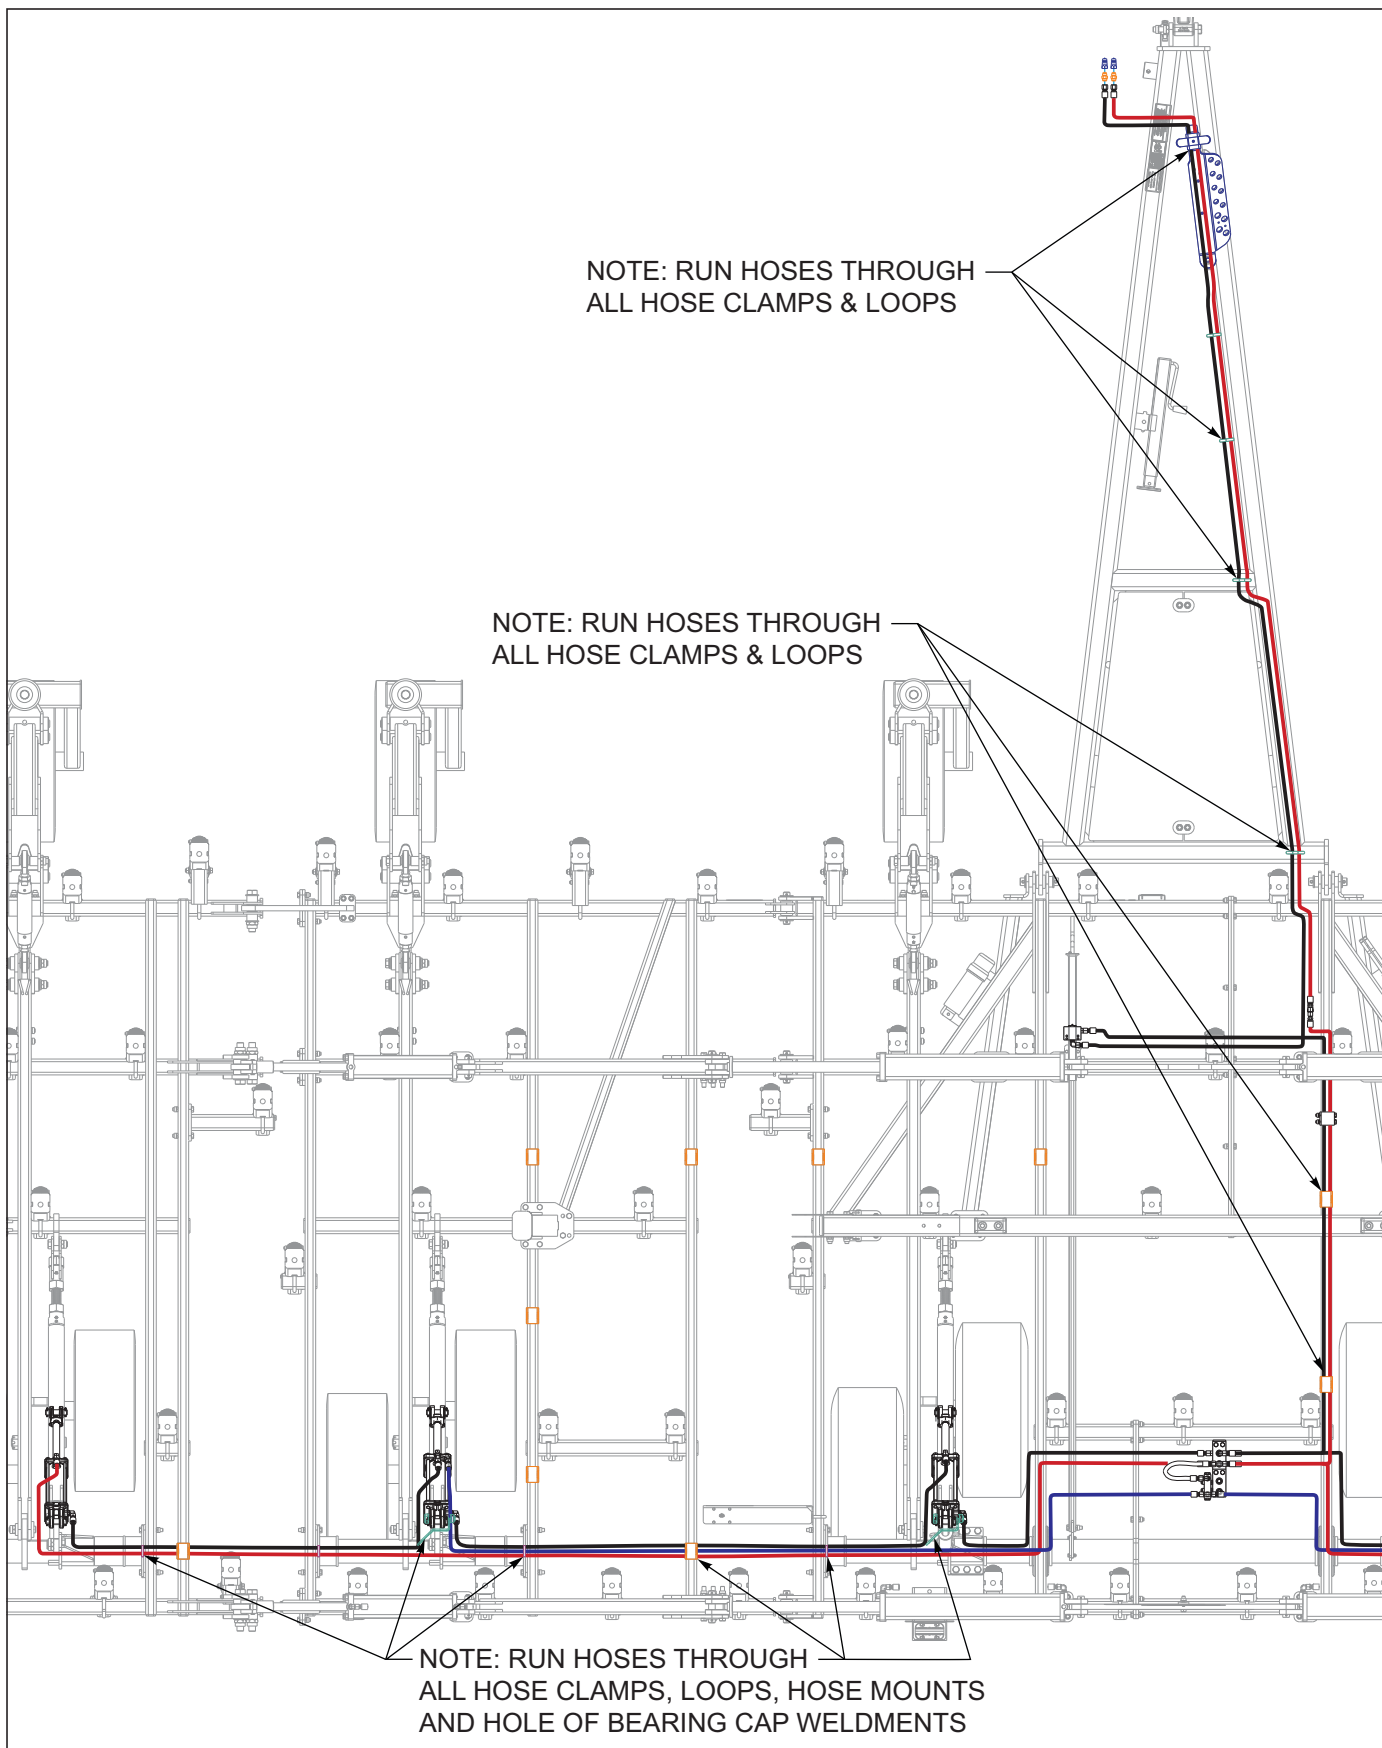
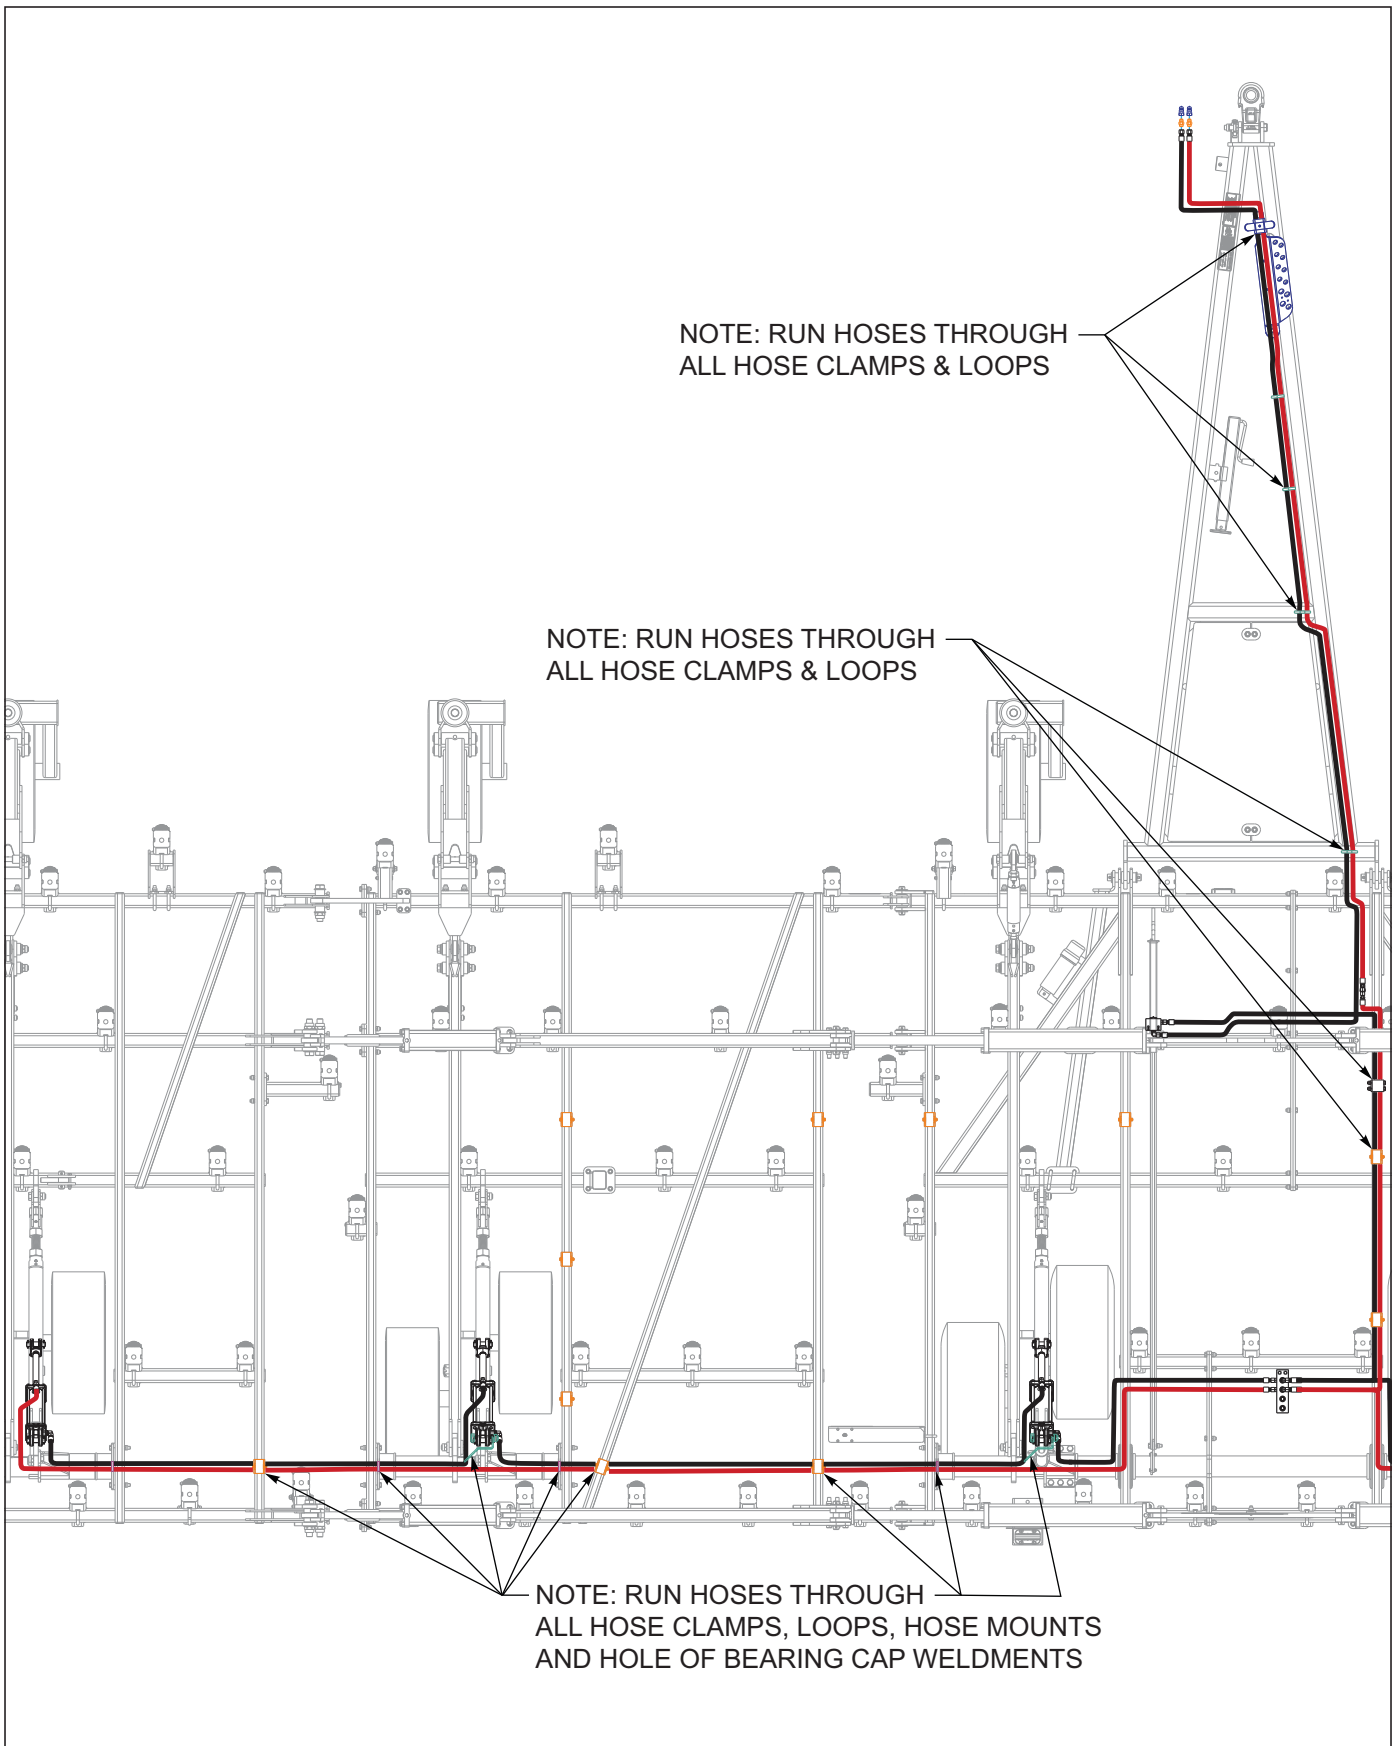

Figure 3-14: Hydraulic Lift Layout 9650FH-38' - 42' LH
Figure 3-20: Hydraulic Lift Layout 9650FH-46' - 50' LH
*2 hose mounts used on center frame and 1 hose mount on each inner wing *See Figure 3-1*, *See Figure 3-14*, *See Figure 3-20* for placement and orientation.*